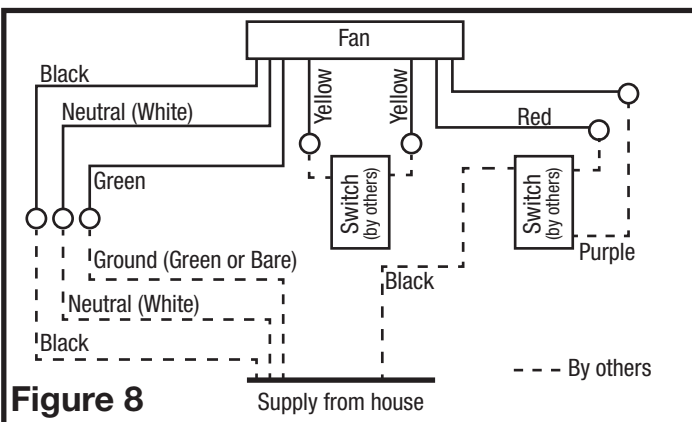

Figure 8
2. **Continuous Ventilation:** For two speed fans wired for continuous ventilation, connect the White wire of the fan to the White (Neutral) wire from the power source. Connect the ground wire from the house to the green wire from the fan housing. Connect the Black wire of the fan to the Black wire (Hot) from the power source. Using a properly grounded standard switch (not included) connect the Black wire from the supply to the switch. Connect the Red wire (light) from the fan housing to the other side of the top switch and connect the Purple wire (night light) from the fan housing to the other side of the bottom switch. Using a second properly grounded standard duplex toggle switch, connect the Hot Yellow wire from the fan to the input of the switch. Connect the second Yellow wire from the fan to the output side of the switch. Closing the switch will change from normal to high speed (Figure 8).